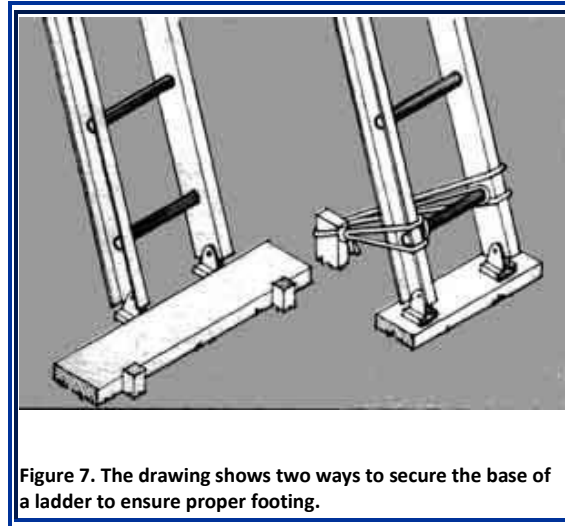

Figure 7. The drawing shows two ways to secure the base of a ladder to ensure proper footing.
- When you can't tie the ladder off, be sure the ladder is on a stable and level surface so it cannot be knocked over or the bottom of it kicked out (Figure 7).